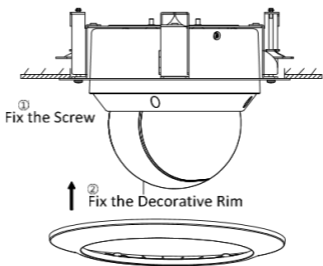

Figure 2-14 Assemble the Decorative Rim
8. Fix the decorative rim with the bubble and the decorative rim will be attached to the in-ceiling bracket automatically, as shown in Figure 2-14.